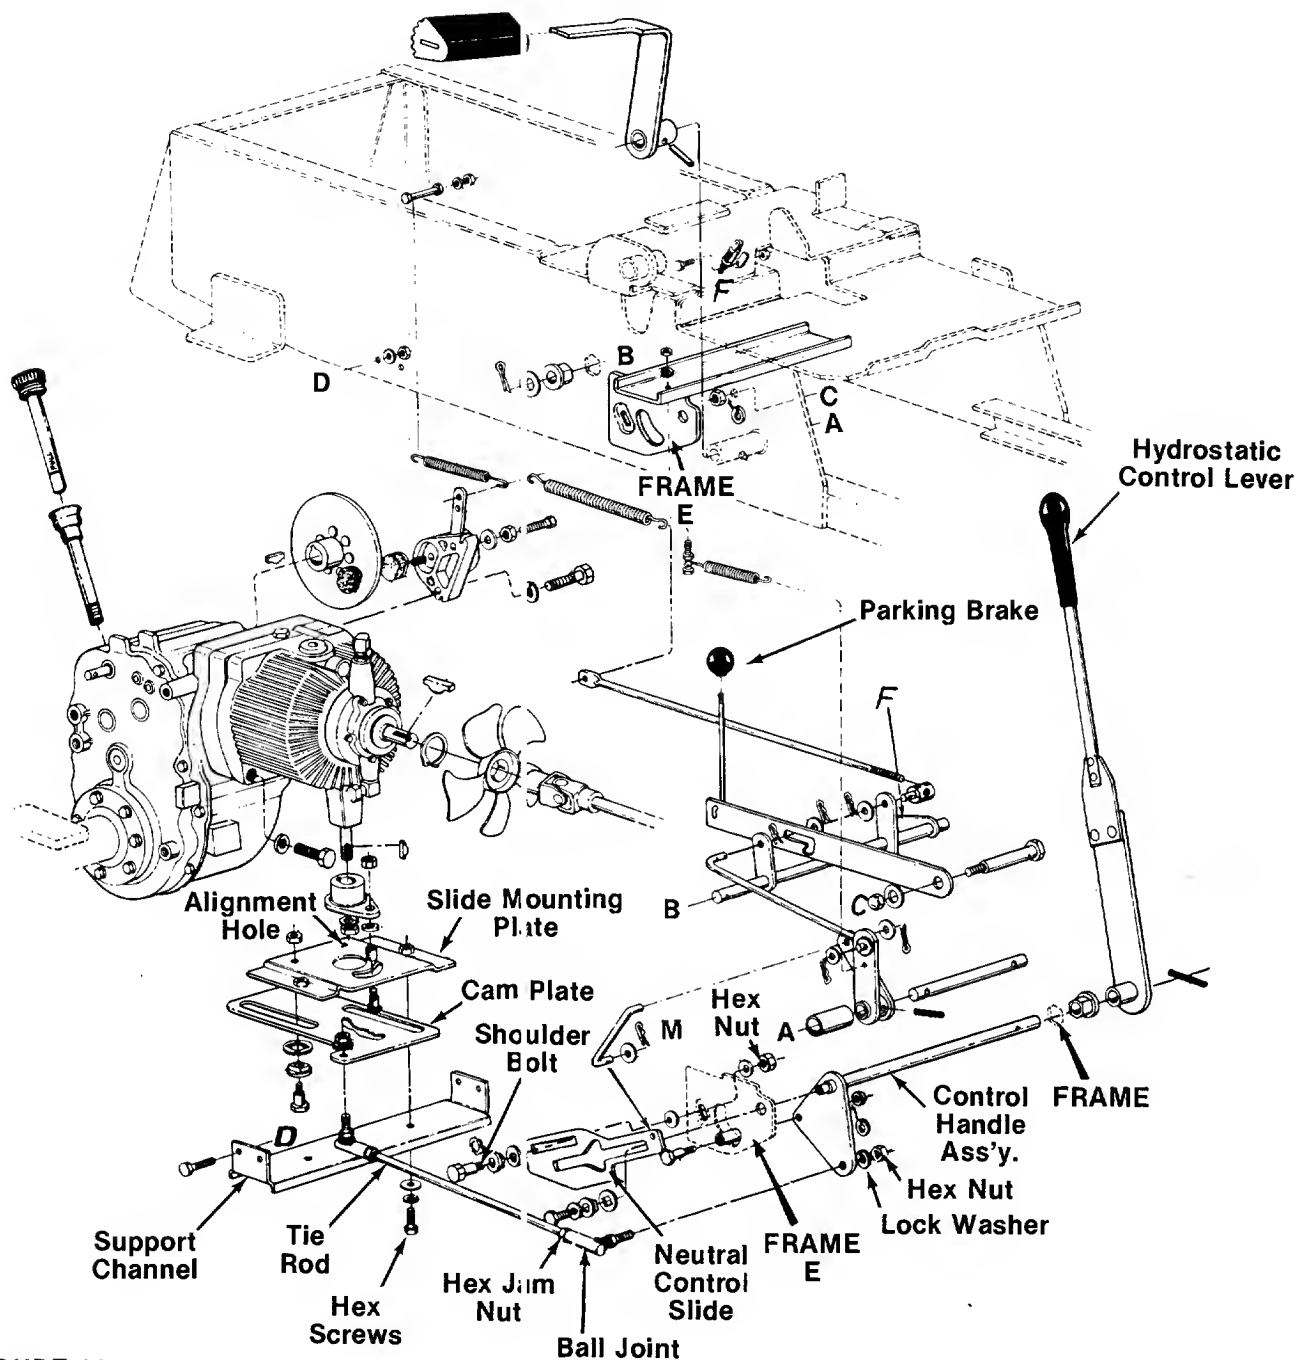

FIGURE 14.
NEUTRAL ADJUSTMENT FOR THE HYDROSTATIC CONTROL LEVER (See Figure 14)
2. Remove the ball joint hex nut and lock washer from the control handle assembly. See figure 14.